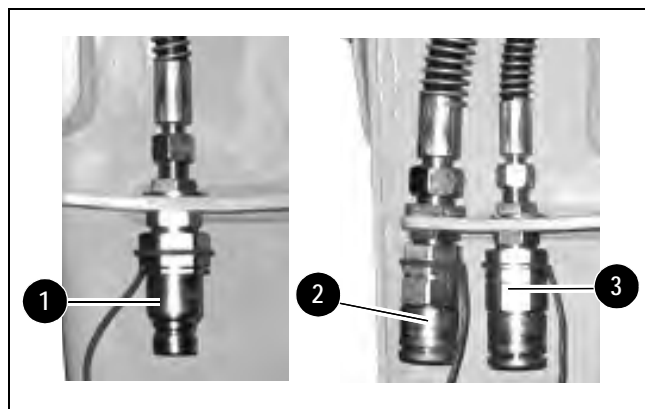

Figure 3-37 Auxiliary Hydraulics Connections
Figure 3-37 shows the three quick connections on the dipper arm meant for auxiliary hydraulics, which are for the following:
2. Extend the dipper arm cylinder halfway and position the boom/dipper arm so the auxiliary hydraulic connectors are positioned as shown in Figure 3-37.